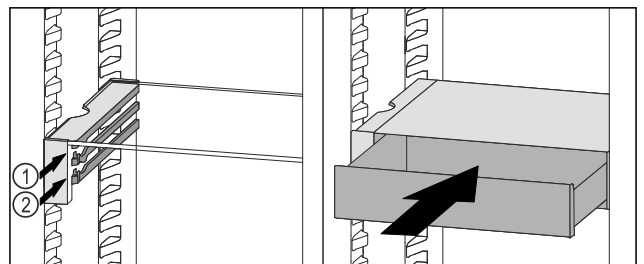

Fig. 182
- Place the VarioSafe drawer behind the stoppers on desired rib Fig. 182 (1) or Fig. 182 (2).